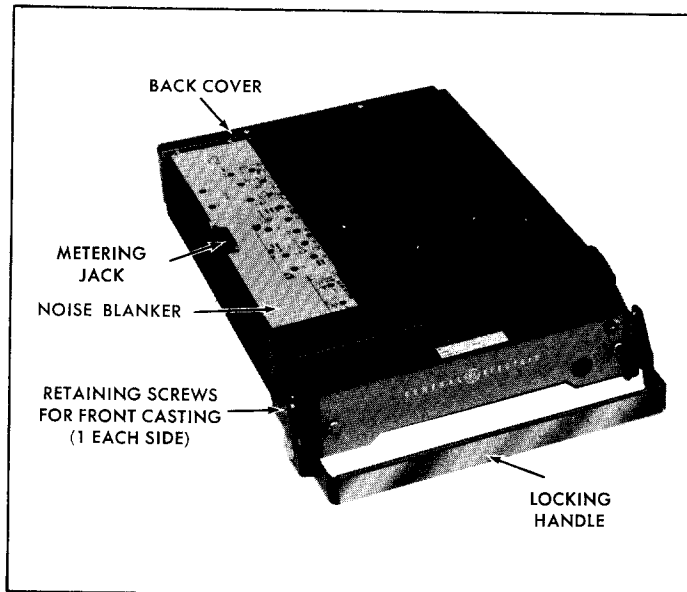

Figure 3 - Removing Top Cover
1. Loosen the two Phillips-head retaining screws in from casting (see Figure 3), and pull casting away from system frame.